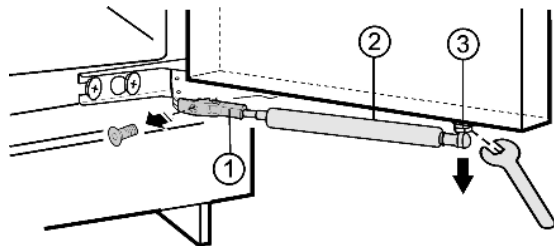

Fig. 3
- Unscrew holder Fig. 3 (1).
- Unscrew the ball stud Fig. 3 (3) together with the soft stop mechanism Fig. 3 (2) from the door and set it aside.